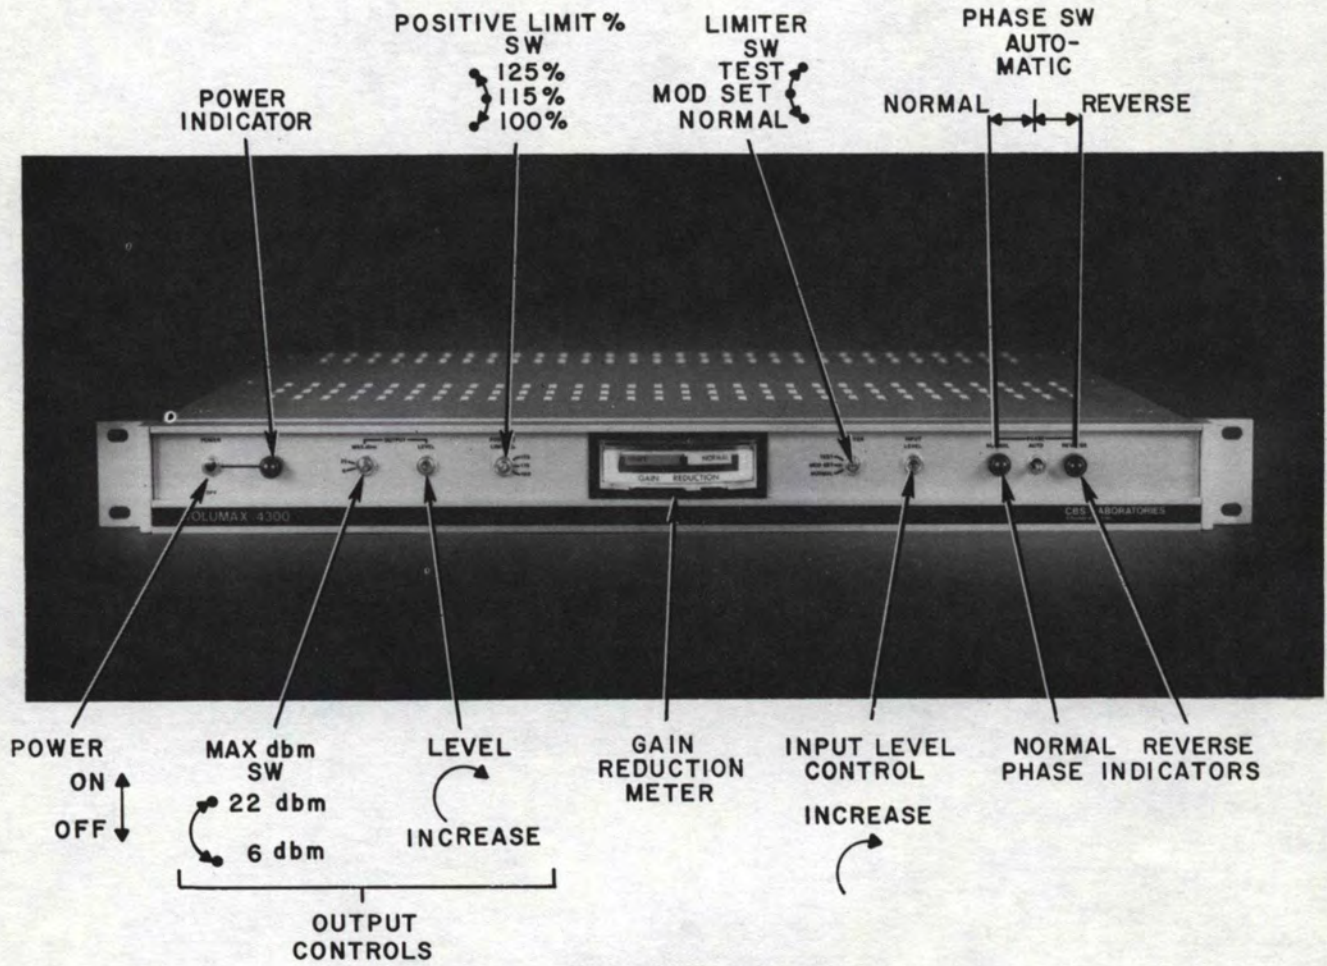

Figure 3-1. Volumax Model 4300 Front Panel Controls
- A) Turn power on and select the 6 or 22 position of the OUTPUT MAX dbm switch as appropriate for a maximum Volumax output of 6 or 22 dBm, respectively. See figure 3-1. See also paragraph 3-3. Then turn the OUTPUT LEVEL control (figure 3-1) fully counterclockwise.
- A) Turn the OUTPUT LEVEL control (figure 3-1) fully counterclockwise. Then turn the OUTPUT MAX dbm switch to the 6 position.
- B) Adjust the INPUT LEVEL control (figure 3-1) as necessary to cause the GAIN REDUCTION meter to operate in NORMAL area with occasional peaks deflecting into the HEAVY region.
The compression action of Volumax can be disabled by placing the **LIMITER** switch (figure 3-1) in the **TEST** position. When this is done, however, the amplifier section of the Volumax unit must not be driven at levels significantly higher than in normal operation. Proceed as follows: